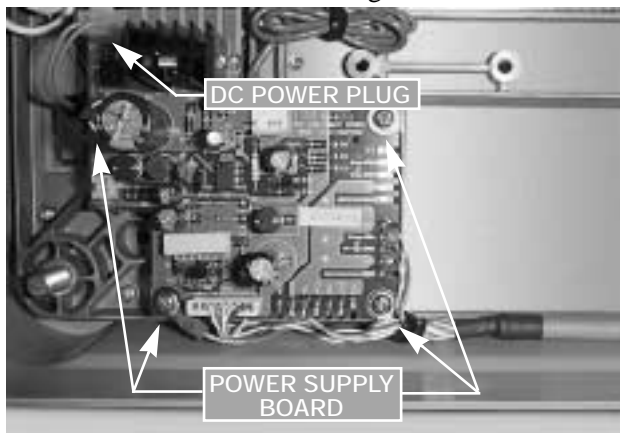

Figure 2-11. Disconnect DC Power Supply Plug and Remove the Four Power Supply Board Screws
4. Disconnect DC power supply plug from power board (Figure 2-11). Remove four machine screws securing board to chassis.
13. Install power board using the four machine screws previously removed. Route load cell cable under power board as shown in Figure 2-11. Reinstall ground terminal under one machine screw head.